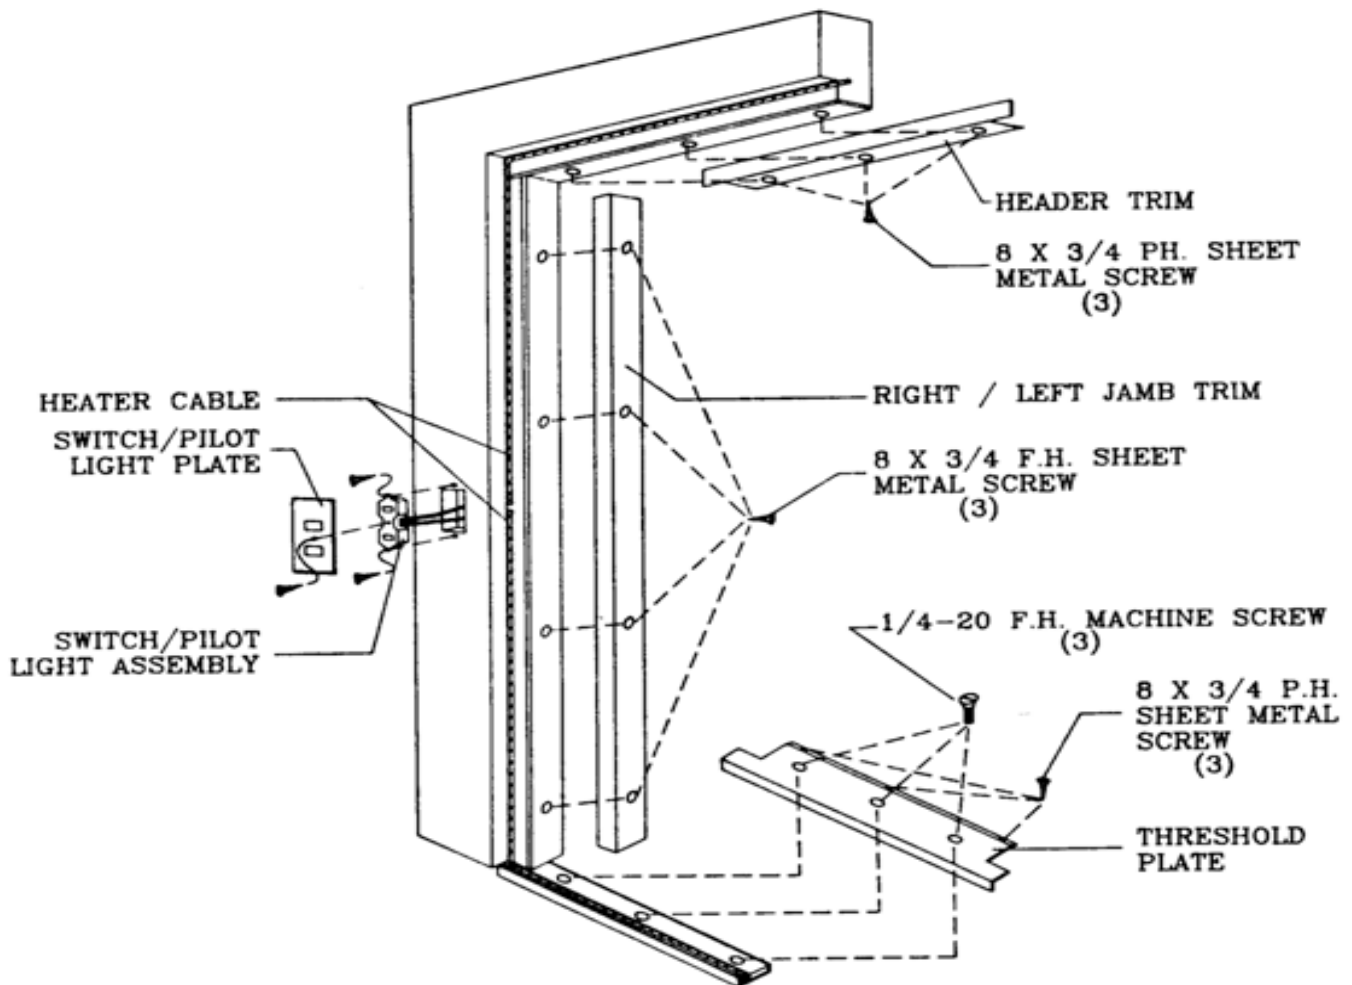

FIGURE 34 - DOOR FRAME HEATER WIRE REPLACEMENT
1. Using Figure 34 on Page 19 as a reference to remove the switch/pilot light cover plate and switch/pilot light assembly.